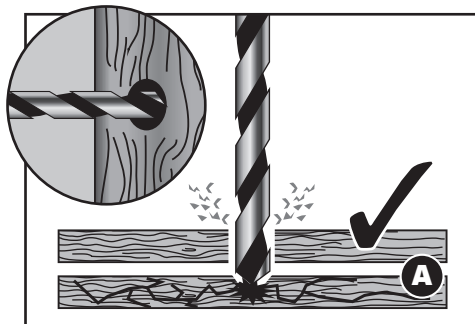

FIG.8
9.9 DRILLING WOOD AND PLASTIC – FIG.8